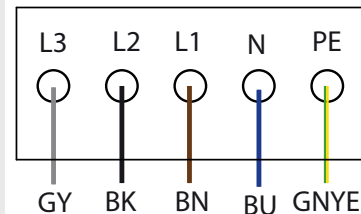

Figure 13: AC connection terminals
- 6. Connect wires in accordance with the labels on the PCB terminals (Figure 13).